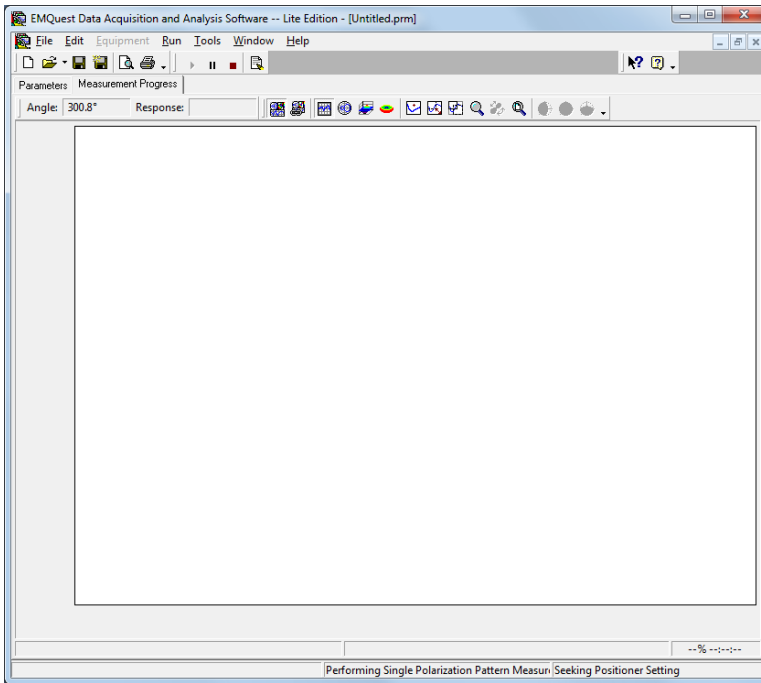
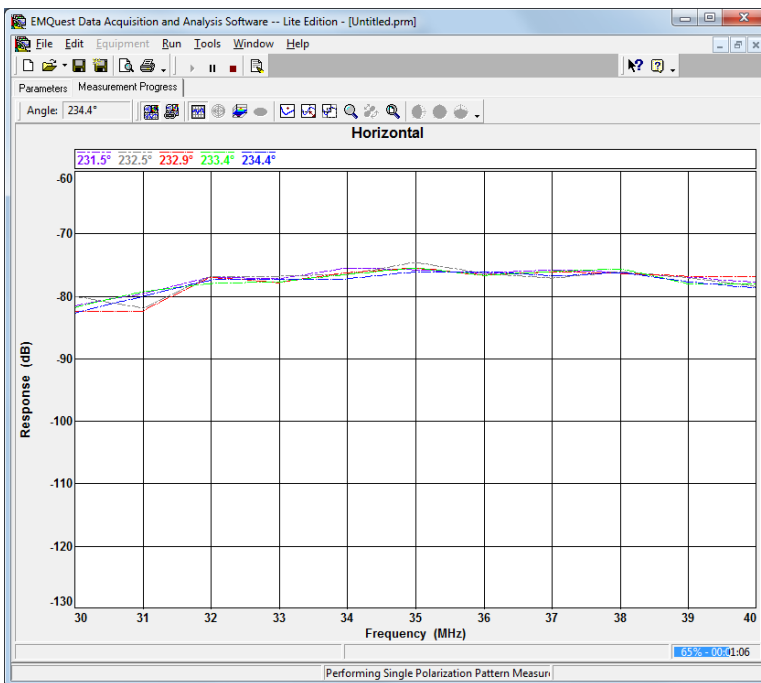

Figure 13. Initial measurement progress example window.
Figure 14. Measurement progress example window (65% complete).
11. Once all parameters have been set and you are ready to start your measurement, make sure that all cables and equipment are properly connected, that the chamber door is closed, and press the "Run" button. A measurement progress window will show the current status of the test (Figure 13 and Figure 14). The status of the positioners may be monitored through the webcam installed in the chamber. This camera can be controlled by the computer on the left. It is important to make sure that the positioner does not become stuck during the pattern measurement. If this happens during data acquisition, stop the measurement process immediately to avoid any damage to the positioners as they are expensive and time-consuming to repair.